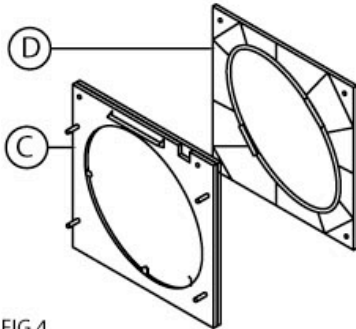

FIG 4
- 4.4 Separate the inner clamp plate (C) from the outer clamp plate (D). Note that the outer clamp plate is shown in the pictures without rear protective grille. It is NOT necessary to divide them. (FIG 4)
- 5.4 Separate the inner clamp plate (C) from the outer clamp plate (D). Note that the outer clamp plate is shown in the pictures without rear protective grille. It is NOT necessary to divide them. (FIG 4)